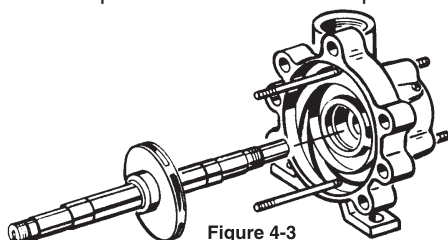

Figure 4-3
- Next, get the shaft (#17B), two drive collars (#14B), one 3/16" key (#23) and the centrifugal impeller (#11BI). Looking at the largest diameter of the shaft, you will see a series of keyways. The drive end of the shaft has a 1" diameter and a larger 1/4" keyway; position the shaft with the drive end on your right. Now put a key (#23) into the keyway nearest the drive end (not the keyway in the drive end). Slide the impeller (#11BI) onto the shaft and position it over the key; the inlet or "eye" will be toward the drive end of the shaft. (refer to figure 4-3) Now install a drive collar into the groove in the shaft on each side of the impeller, the impeller is now locked into place.